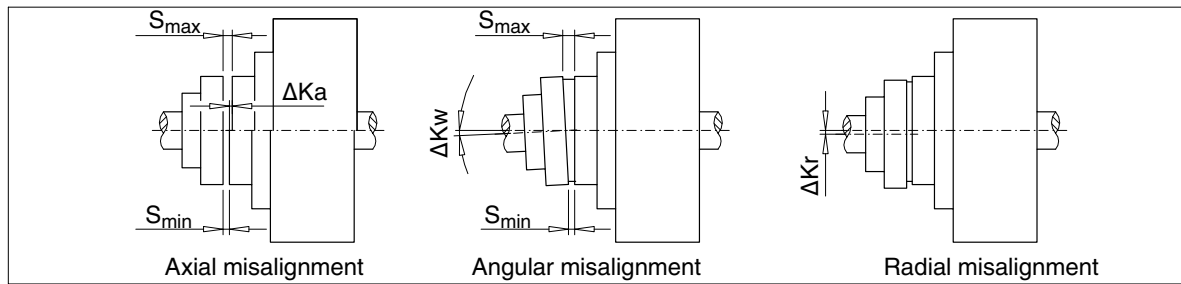

Fig. 10: Possible misalignments
Axial misalignment ΔK_a (Fig. 10) of the coupling parts relative to one another is possible within the "permissible deviation" for dimension "S" (see order-related title page).
The angular misalignment ΔK_w (Fig. 10) can usefully be measured as the difference in the gap dimension "S" ($\Delta S = S_{\max} - S_{\min}$). For the permissible values for the difference in the gap dimension, refer to item 6.5.4.
For the permissible radial misalignment $\Delta K_{r \text{ perm.}}$ (Fig. 10) which depends upon the operating speed, refer to item 6.5.4.